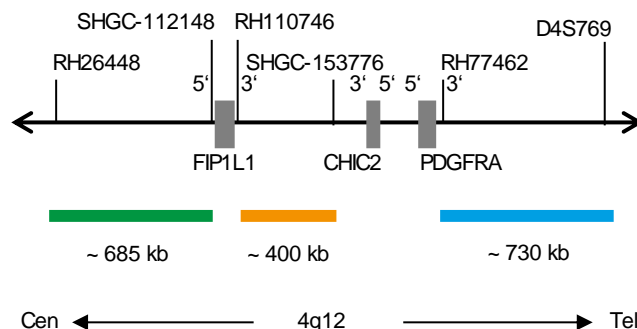

Fig. 1: SPEC PDGFRA/FIP1L1 Probe map (not to scale)
- ZyGreen (excitation 503 nm/emission 528 nm) labeled polynucleotides (~10.0 ng/μl), which target sequences mapping in 4q12* (chr4:53,552,536-54,238,252) proximal to the FIP1L1 gene region (see Fig. 1).
- ZyOrange (excitation 547 nm/emission 572 nm) labeled polynucleotides (~4.5 ng/μl), which target sequences mapping in 4q12* (chr4:54,351,156-54,749,671) proximal to the PDGFRA gene region (see Fig. 1).
- ZyBlue (excitation 418 nm/emission 467 nm) labeled polynucleotides (~37.0 ng/μl), which target sequences mapping in 4q12* (chr4:55,185,968-55,915,442) distal to the PDGFRA gene region (see Fig. 1).